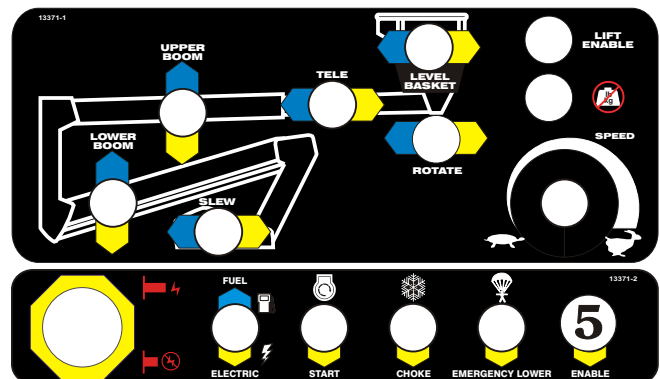

Figure 9.4 - Enable Switch
5. Operate the **Enable** switch ❺ by pressing the switch down and hold it down (see Figure 9.4).